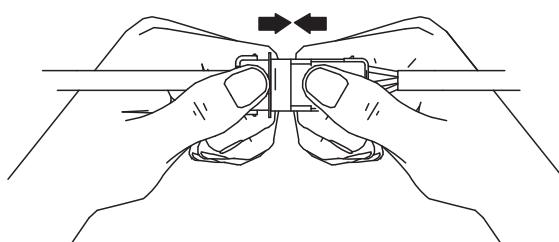

Figure 33
- b. Turn on the ignition/power. The ELI display should run through a short system check, shown by the brief illumination of the three display icons (**Figure 33**). After the system check is complete, the yellow "Ready to Couple" icon should be illuminated.